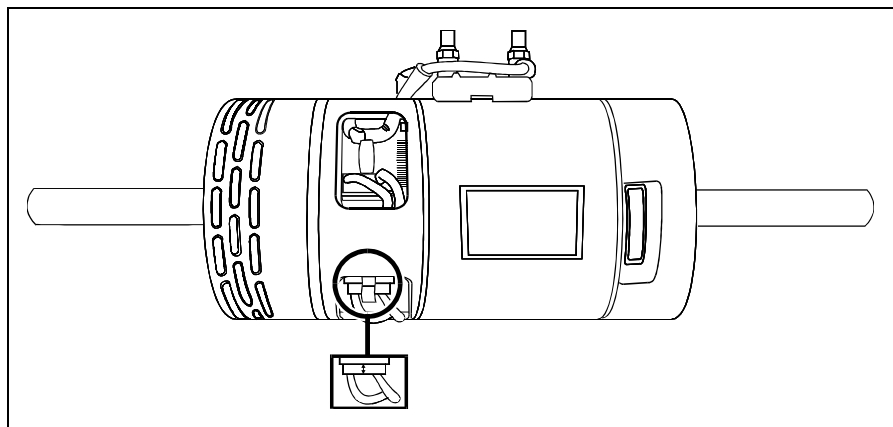

FIGURE 2: LOCATION OF THE BRUSHES ON THE EVAPORATOR MOTOR. 22110
7. Remove the four brushes of the motor (Fig. 2).
21. Check if evaporator motor brushes are worn out. If they have the same height as the brush-holder, they must be replaced (Prévost #561202, Qty: 4 , Fig. 2).